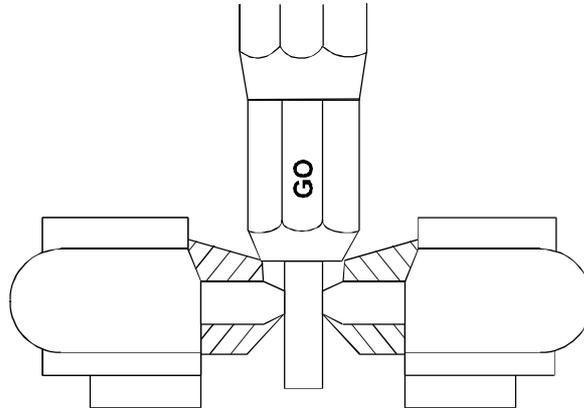

Figure 1-23
4. Slide the gauge into the indenter opening and through the indenters. The gauge should pass freely through the indenters, as shown in Figure 1-23. If not, the tool should no longer be used until it has been repaired.